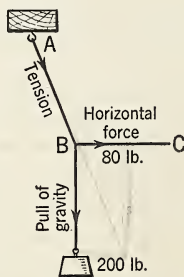

FIG. 170. Component of a force.
9. A weight of 200 lb. is supported by a rope. If the rope is drawn aside along BC , Fig. 170, by a force of 80 lb., find the tension in the rope.